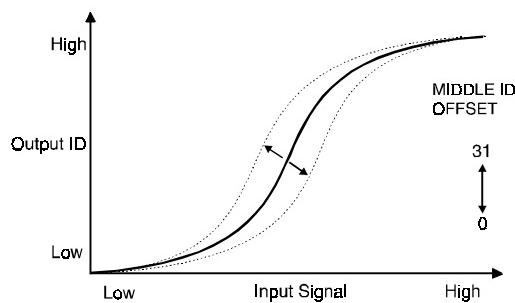
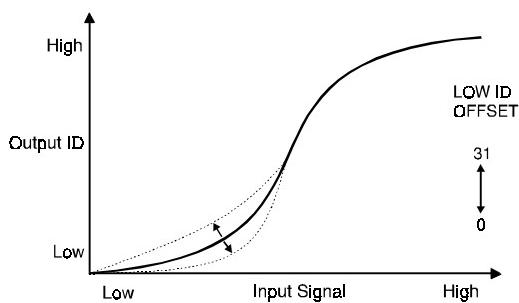

Fig. 5
Fig. 6
2. The part with the equal values is treated as a black image (see figures 1 and 2), using the 70% UCR ratio. The resulting amounts are then added to the remainders from step 1 (figure 5). The final result gives us the ID value for each color and for black (figure 6).
The Middle ID mode should be used to adjust the image density between Level 3 and Level 7 of the color gradation scale on the C-4 test chart (figure 5).
The Low ID mode should be used to adjust the image density between Level 2 and Level 5 of the color gradation scale on the C-4 test chart (figure 6).